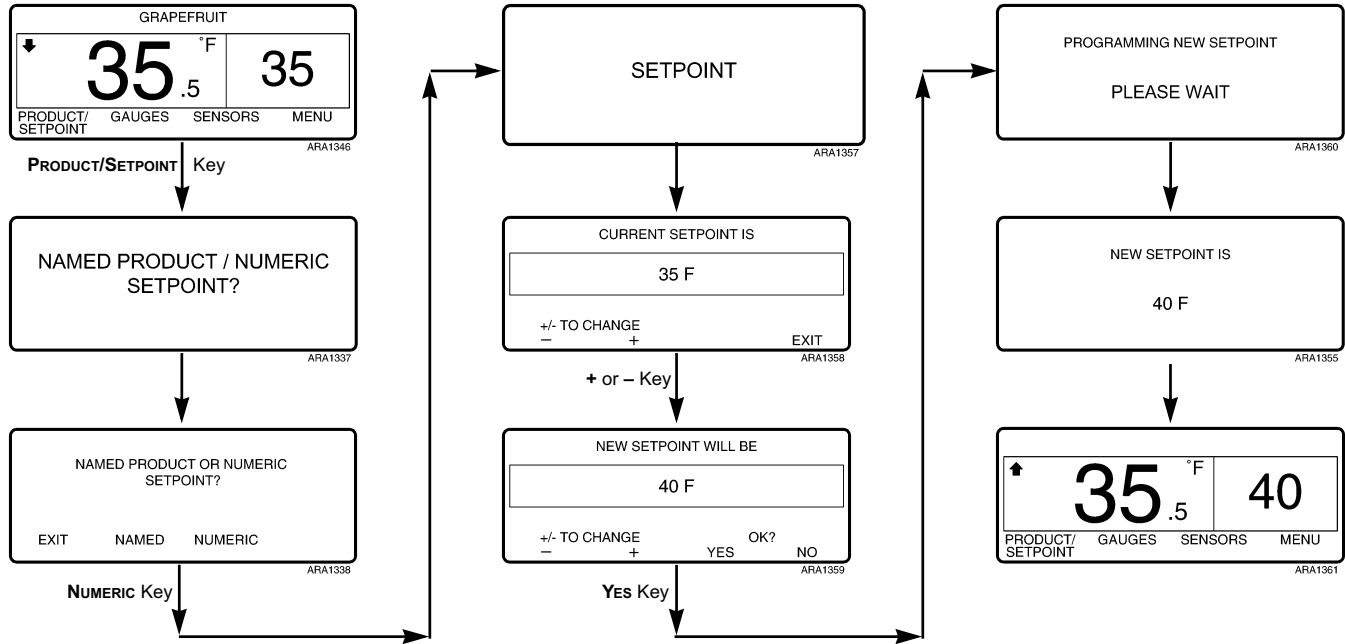

Figure 100: Selecting or Changing Numeric Setpoint Screen Sequence
3. The “Named Product / Numeric Setpoint?” Screen briefly appears, then the “Named Product or Numeric Setpoint?” Screen will appear. See Figure 100.
4. Press the **NUMERIC** soft key. See Figure 100.
5. The “Setpoint” Screen briefly appears, then the “Current Setpoint Is” Screen will appear. See Figure 100.
6. Press the **+** or **-** soft keys to change the setpoint. See Figure 100.
7. Press the **YES** or **No** soft key accordingly as described below. See Figure 100.
8. The “Programming New Setpoint” Screen will appear. See Figure 100.
9. The “New Setpoint Is XX” Screen briefly appears. See Figure 100.
10. The Standard Display appears with setpoint changed to the new setpoint. See Figure 100.